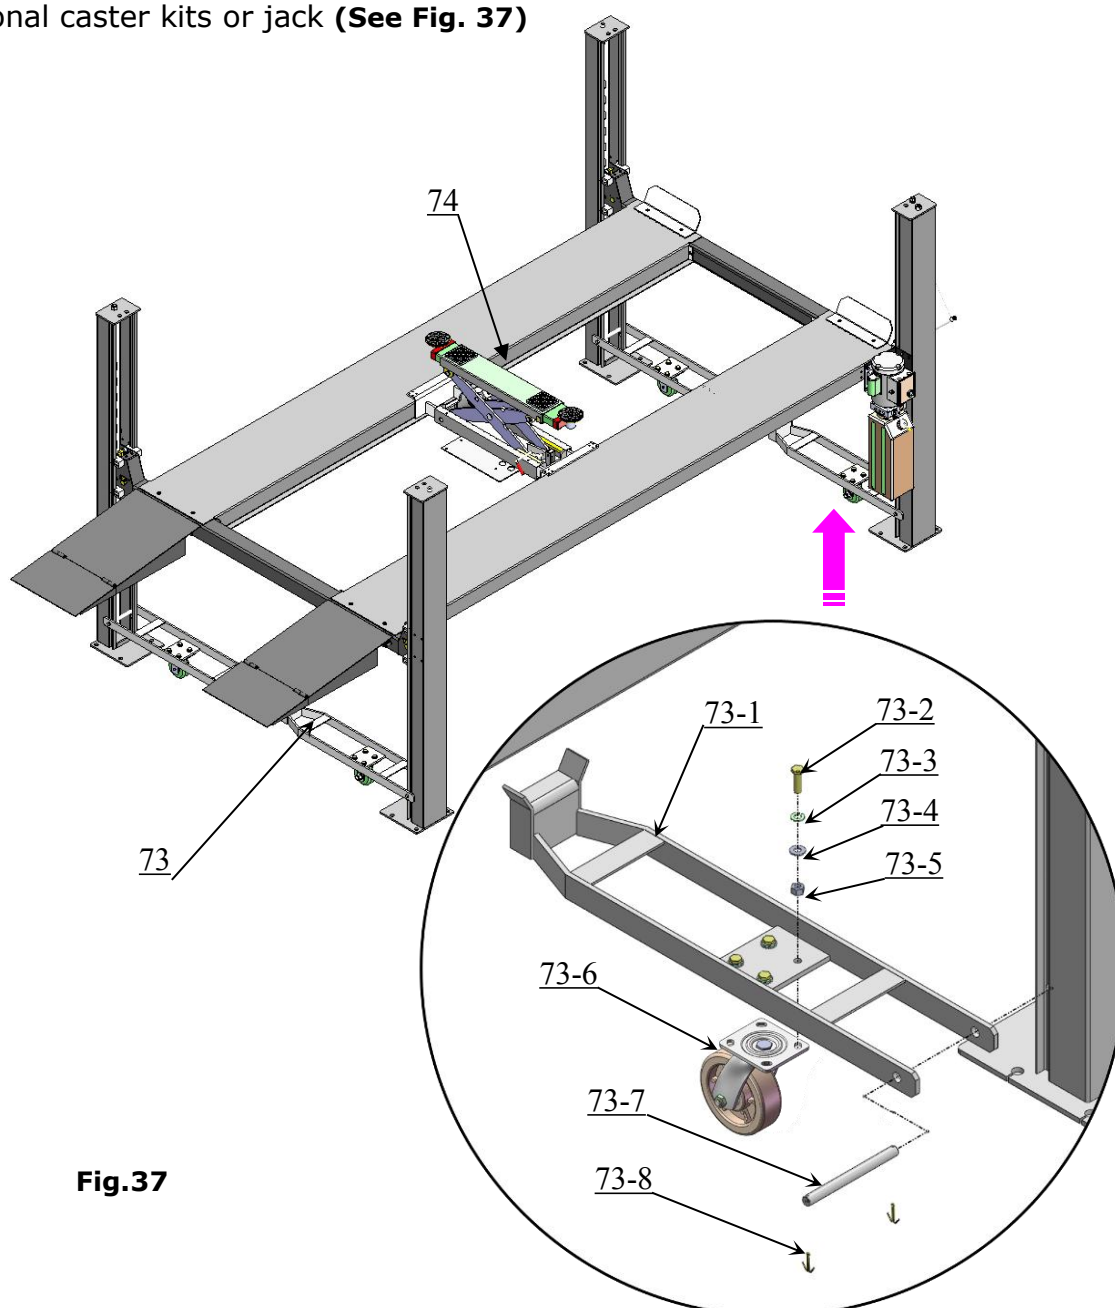

Fig.37
1. Install optional caster kits or jack (See Fig. 37)